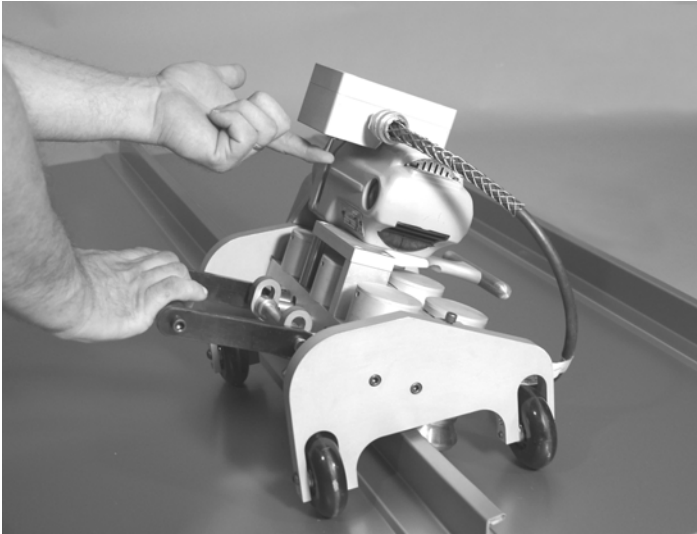

Figure 5: Use the On/Off - Bi-Directional Switch to start the seam in the desired direction. (Note: Seam downhill only on roof slopes greater than 6:12)
9. Use the Bi-Directional Toggle Switch (Figure 5) to start seaming in the desired direction. The seamer is bi-directional, and will seam either up or down the roof slope (on steep slopes of more than 6:12, seam in the downhill direction only). Seamer will travel at approximately 45 feet per minute.